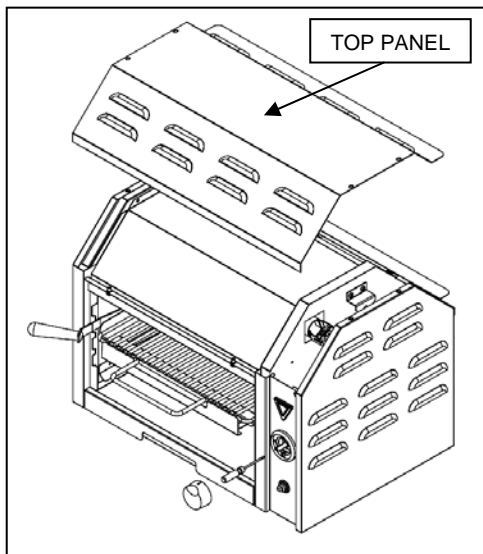

Fig. 1
4. Remove the top panel by removing (8x) screws along top sides with a Phillips screwdriver. (Fig. 1)